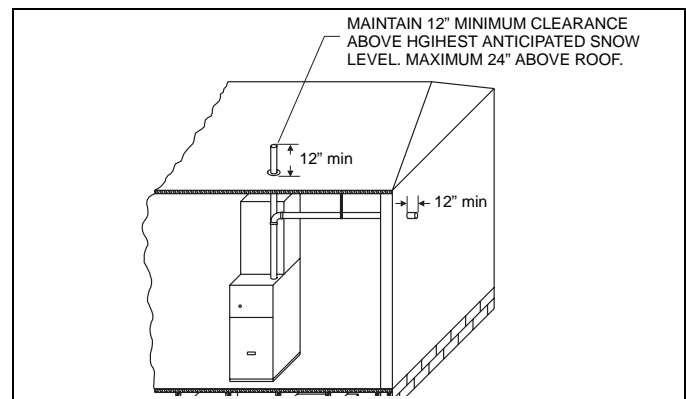

FIGURE 18: Termination Configuration - 1 Pipe
- Sealed combustion air systems must be installed so the vent and the combustion air pipes terminate in the same atmospheric zone. Refer to Figures 18, 19, 20 & 23.
6. A vent drain is required when vent passes through any unconditioned space such as an attic or crawl space in order to prevent the accumulation of excess condensate in the inducer motor during operational cycles. See Figure 18.